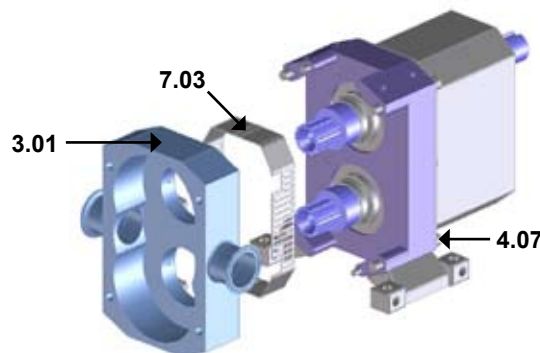

**FIGURE 89**
**NOTE:** The shaft has two location grooves which the grub screws in the seal sleeve locate into. (See Figure 89 and Figure 90)